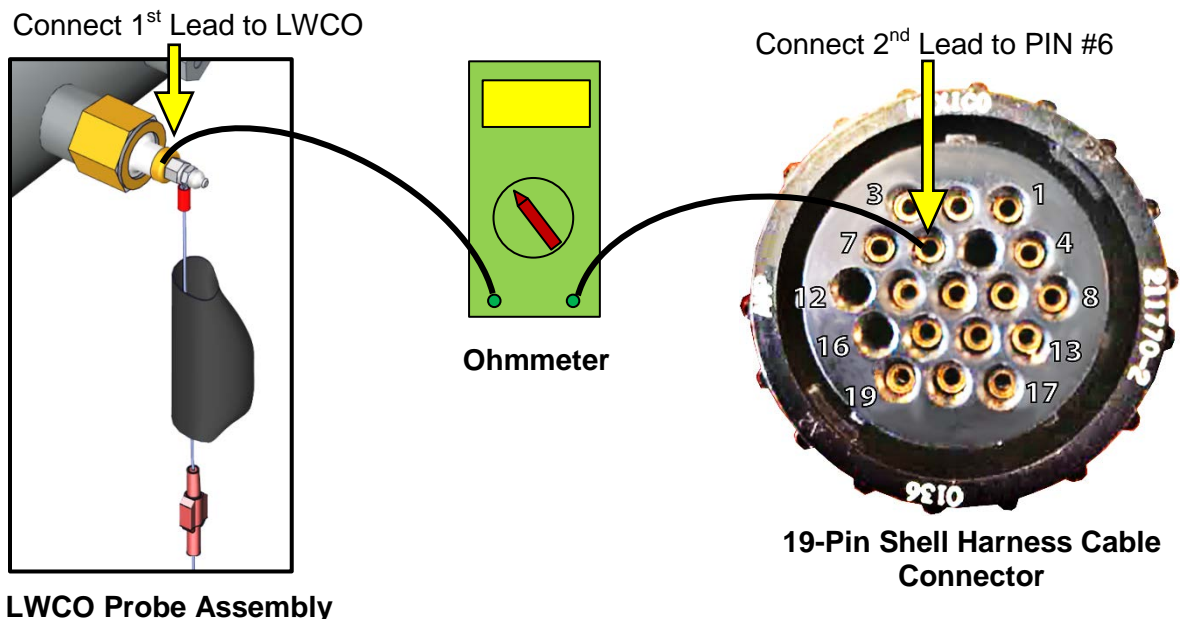

Figure 6-14: Connecting Ohmmeter between LWCO Probe & Shell Harness Cable
- Using an ohmmeter, connect one ohmmeter probe to the LWCO capacitor terminal on the unit shell as shown on left in Figure 6-14.
- Connect the second ohmmeter probe to Pin #6 of Shell Harness Connector (removed from the C-More Controller) as shown on right in Figure 6-14.